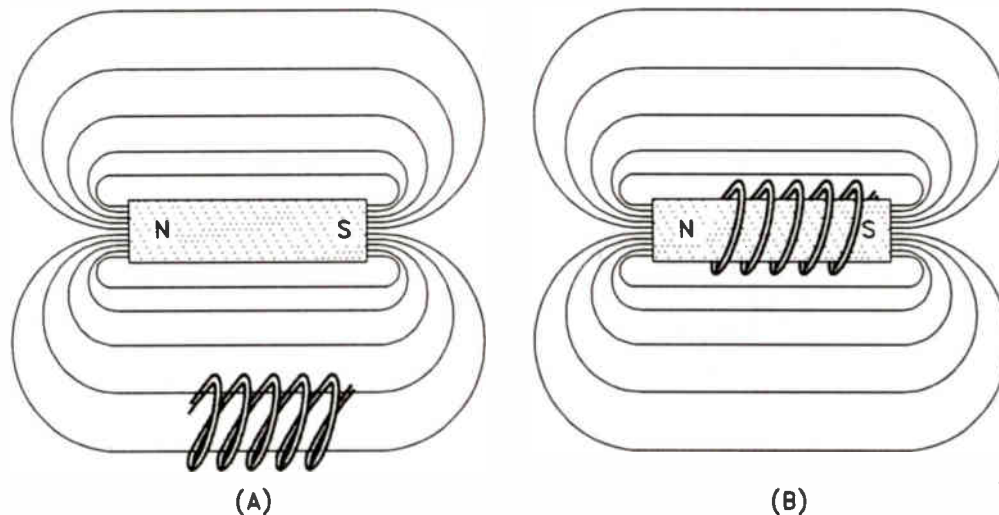

Figure 8. (A) There are 10 flux linkages with the magnet outside of the coil. (B) There are 50 flux linkages when the magnet is moved inside the coil.
Figure 8(A) shows a magnet with 10 magnetic lines of force, but only two of them cut through all 5 turns of the coil. Consequently, there is a total of 10 flux linkages. As you can see, part of the flux is lost, because not all of the lines of force cut through the coil. This is called *flux leakage*.
If we move the magnet to the position shown in Fig.8(B), so that the magnet is placed inside the coil and all 10 lines cut through the 5 turns of the coil, there is a total of 50 flux linkages. When the number of flux linkages increases from 10 to 50, a voltage is produced in the coil as the magnet moves. This voltage, as you know, is called induced voltage. If the magnet is moved away from the coil so that the number of flux linkages decreases, a voltage is again induced in the coil as the magnet moves.